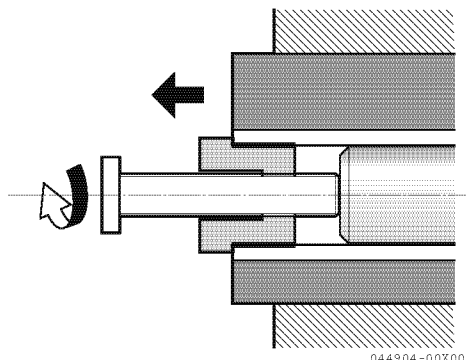

Figure 16
*Note: When replacing a used impeller with a new one, the impeller must have an M24x2 thread (**Figure 16**). Turn the M24 screw side of the impeller to the cover side and install.*